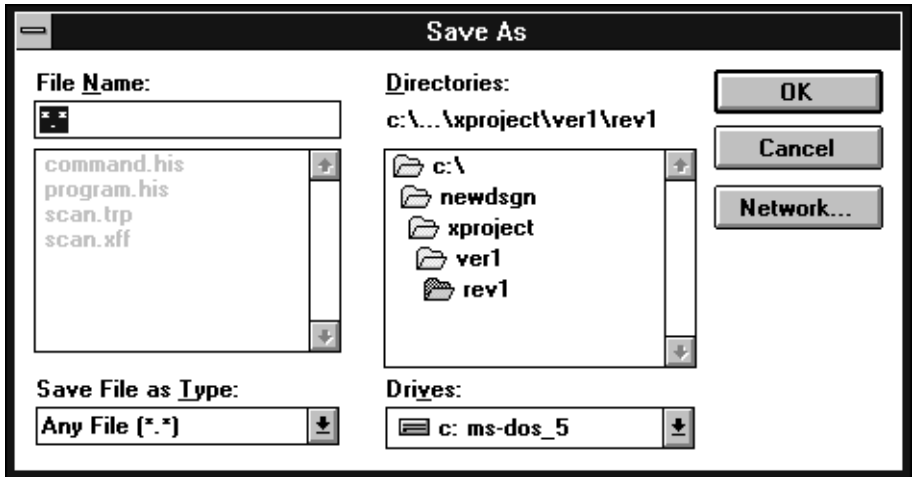

Figure 2-23 The Save As Dialog Window
- Copy: If you want to copy a file, click Copy and you see the following Save As Dialog window as shown in Figure 2-23.
- Move: If you want to move a file, highlight the file name in the Revision Browser window and click Move; you will see the same Save As dialog window as shown in Figure 2-23.